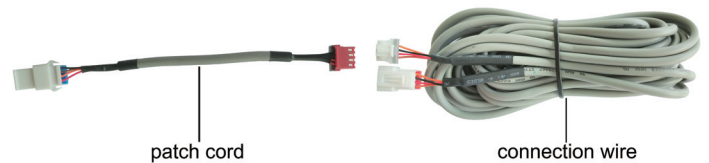

Fig. 24: Schematic diagram of patch cord and connection wire
For matching with different models, the patch cord and the connection wire are provided in the packaging box of wired controller. As shown in Fig. 24.
- If the air conditioner has been installed with the patch cord (Fig. 24) used for connecting the wired controller.